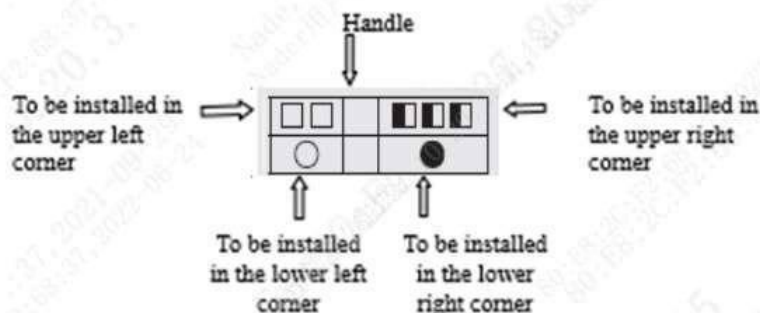

Fig.2 Attachment installation diagram
6.1 Tripping characteristics curve under normal environment (ambient air temperature: 40°C), Fig2: